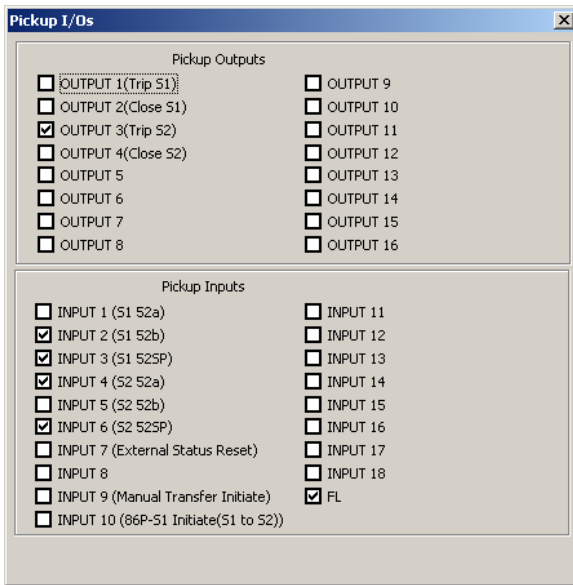

Figure 3-26 Transfer Event Log Pickup I/Os Status Screen
- To view the Transfer Event Log Pickup Input and Output information, select **Pickup I/Os**. ISScom® will display the Pickup I/Os Status screen (Figure 3-26).